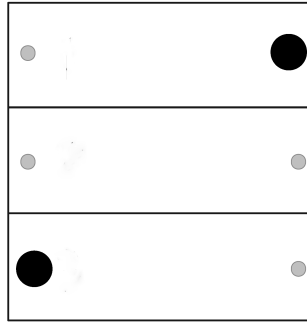

Figure 7: Activating programming mode for scene buttons
- Press the top right and bottom left buttons simultaneously for 4 seconds (Figure 7). The left red LED flashes slowly. The radio sensor is in programming mode for approx. 1 minute.
- Briefly press the top right and bottom left buttons simultaneously (Bild 7). All functions are terminated. The left-hand Status LED turns green on programming as channel buttons. The right-hand Status LED turns green on programming as scene buttons.